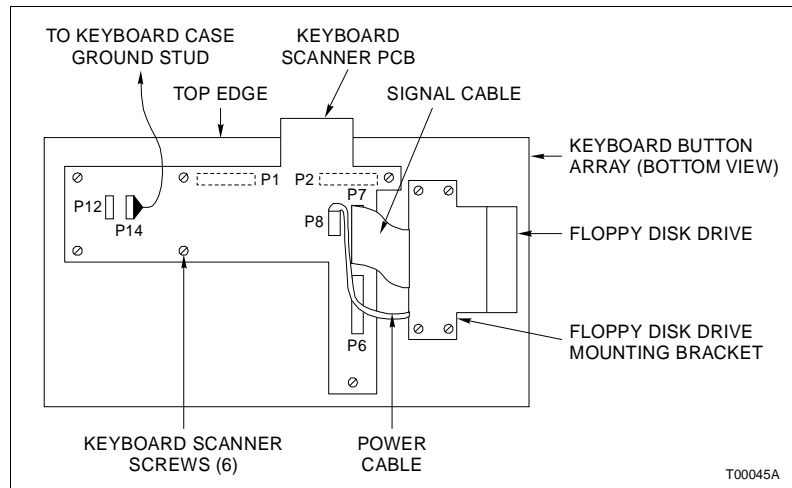

Figure PR60-2. Keyboard Scanner PCB Replacement
4. Remove the ground wire from P14 on the keyboard scanner PCB (Fig. PR60-2).